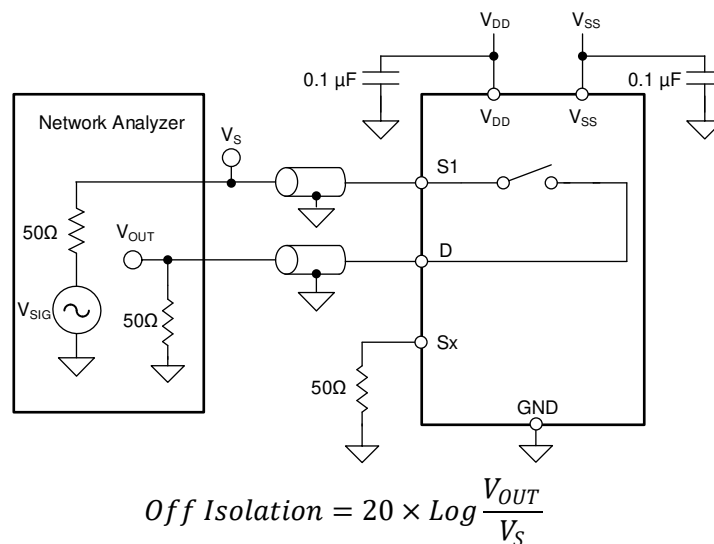

图 8-10. Off Isolation Measurement Setup
Off isolation is defined as the ratio of the signal at the drain pin (D) of the device when a signal is applied to the source pin (Sx) of an off-channel. 图 8-10 shows the setup used to measure, and the equation used to calculate off isolation.